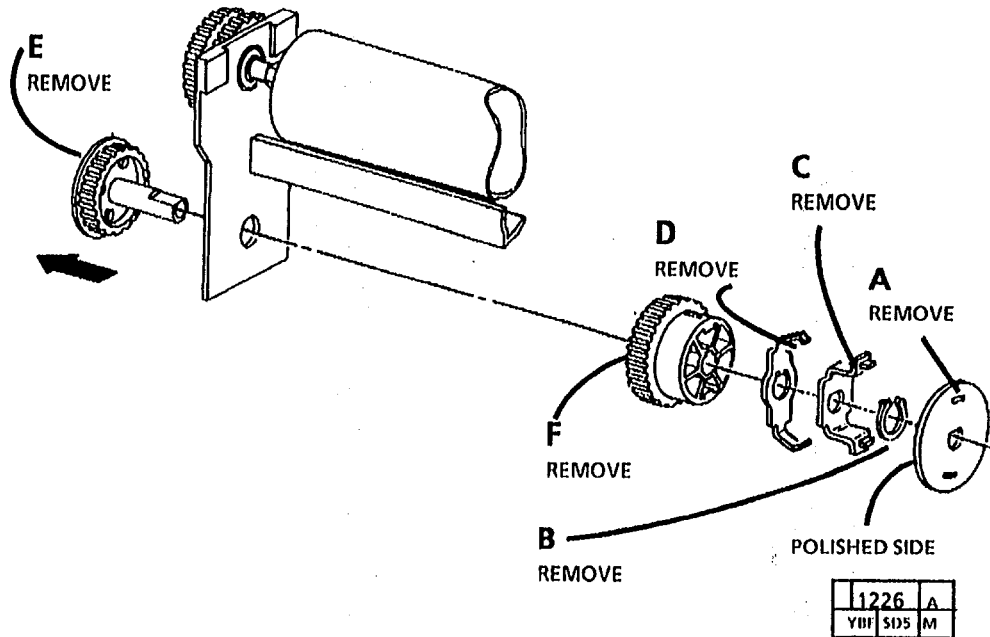

Figure 1. Remove the Fuser Drive Gear
2. (Figure 1): Remove the fuser drive gear.